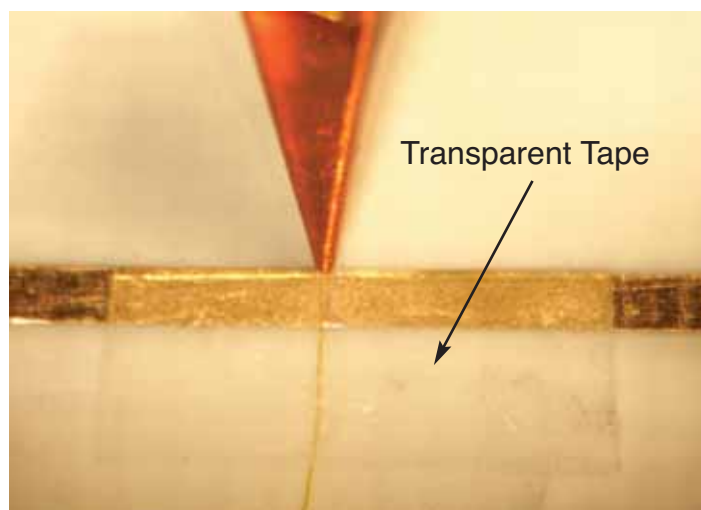

Figure 16: Securing the coil lead with clear tape
5. After the glue hardens, stand the coil/foam assembly onto the microstrip board and position the coil's pointed end lead across the printed line at the scribed location of step 2. Temporarily secure this lead to the printed line and dielectric surface with transparent tape as shown in **Figure 16**.